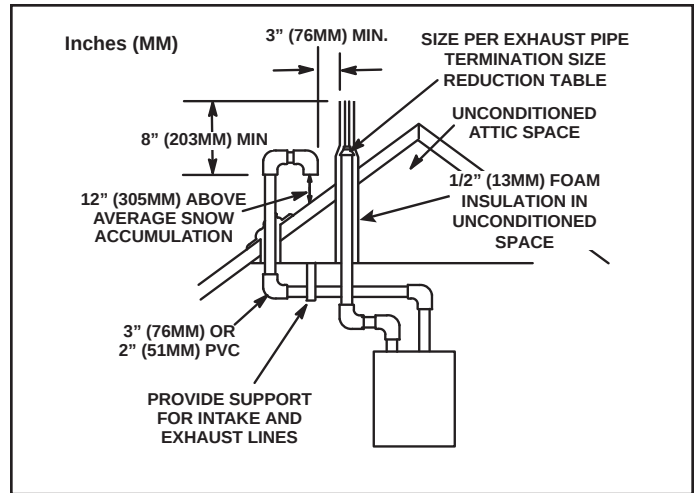

Figure 29. Direct Vent Roof Termination
Intake and exhaust pipes may be routed either horizontally through and outside wall or vertically through the roof. In attic or closet installations, vertical termination through the roof is preferred. Figure 29 through Figure 36 show typical terminations.
3. On roof terminations, the intake piping should terminate straight down using two 90° elbows (see Figure 29).